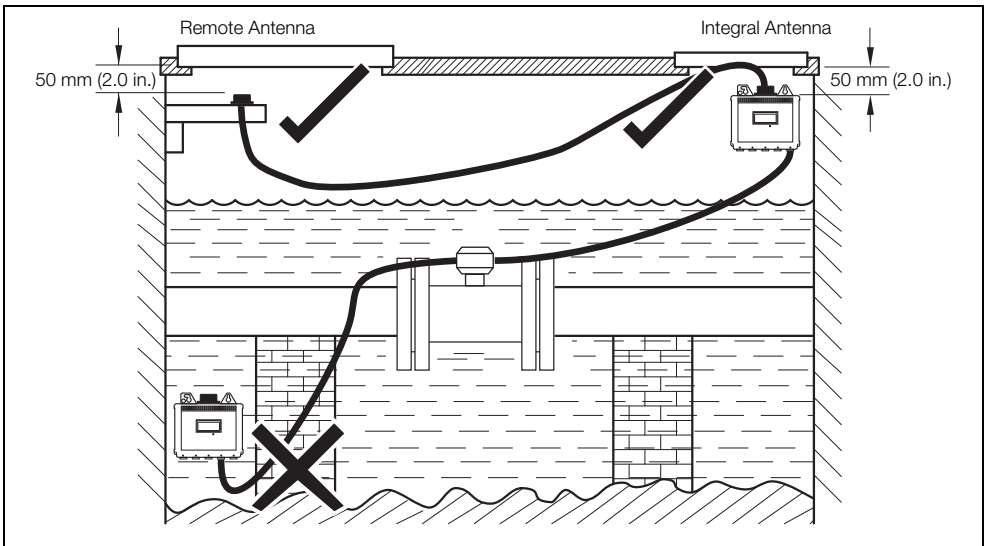

Fig. 2.22 GSM Antenna Installation
- the antenna, mounted 50 mm (2 in.) below the chamber cover, must be plastic – see Fig. 2.22
- Ensure the antenna does not become submerged under water – see Fig. 2.22.